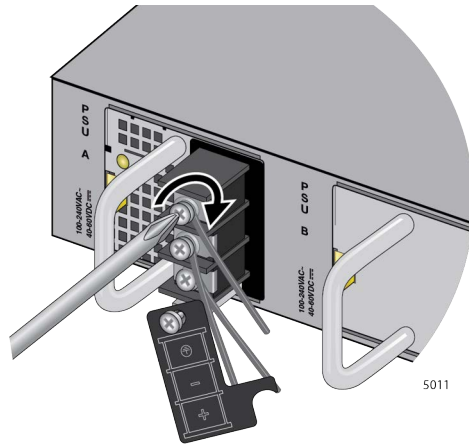

Figure 104. Tightening the Screw for the Negative (+)
6. Wind the power wire and tighten the screw. Refer to Figure 104.